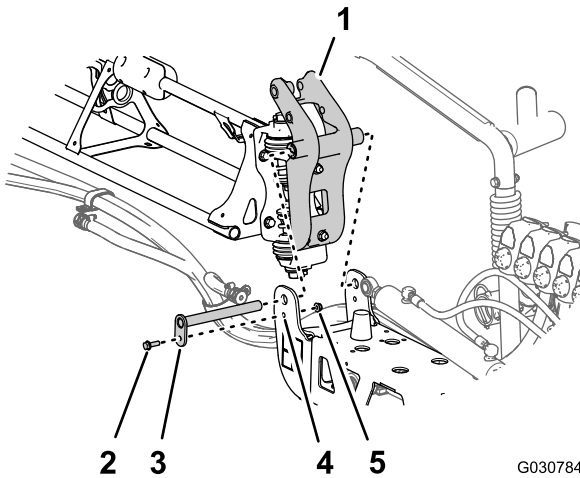

**Figure 124**
6. Align the rod end of the lift cylinder with the hole 25 mm (1 inch) in the horn of the pivot fitting (Figure 124).
7. Secure the lift cylinder to the pivot fitting with the clevis pin and hairpin (Figure 124) that you removed in step 2 of Removing the Lift Cylinders (page 23).